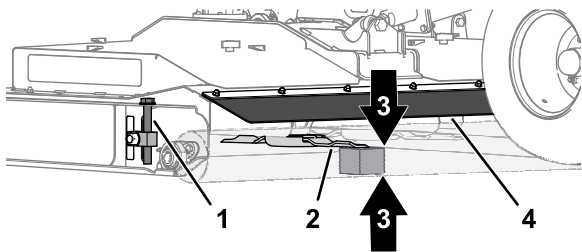

Figure 74
1. Working at the back of the mower deck, lift the rear flap and align the wood block 51 mm (2 inches) between the rear end of the center mower blade and the ground (Figure 74).